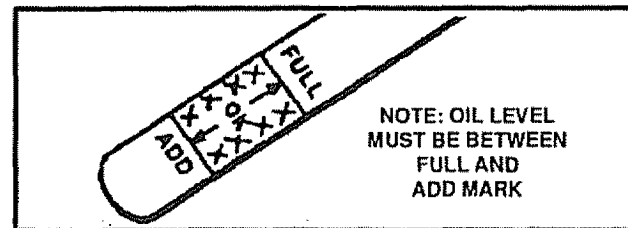

FIG. 19
Check the crankcase oil level (See Fig. 19) before starting the engine and after each five (5) hours of continuous use. Add S.A.E. 5W-30 motor oil as needed. Tighten fill cap/dipstick securely each time you check the oil level. S.A.E. 5W-30 motor oil may be used to make starting easier in areas where the temperature is 20° F or lower.